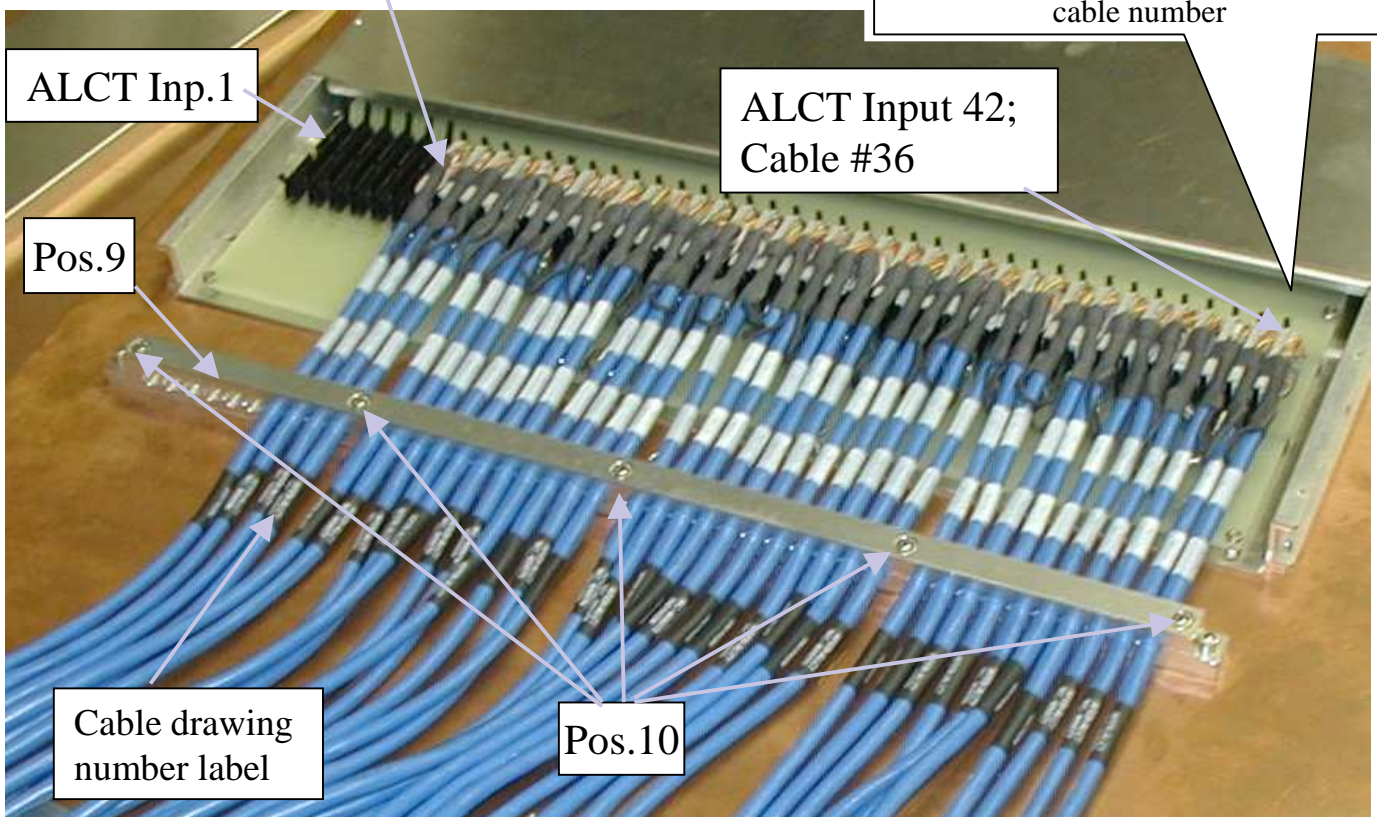

Fig.2. Cables clamped near the ALCT input.
- Install the top part of the strain relief clamp (Pos. 9) with M6 screws (Pos.10) and tighten the cables firmly but gently. Avoid pinching the cables. See Fig.2 for reference.